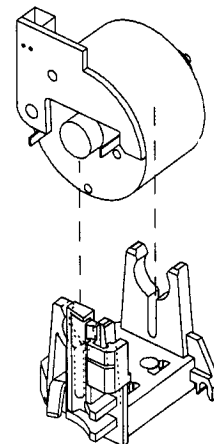

Fig. 6
- Remove the threading motor from the motor supports (Fig. 6).